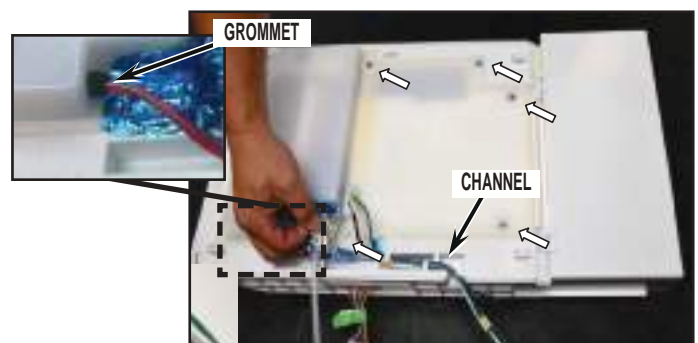

FIGURE 33
6. Remove foil fill tube heater from the ice maker fill tube on the ice box. Remove all wires from channel on ice box assembly. See *Figure 33*.
7. Use a straight blade screw driver to remove 5, 1/4" screws securing the ice box cover to the ice box assembly. See *Figure 33*.